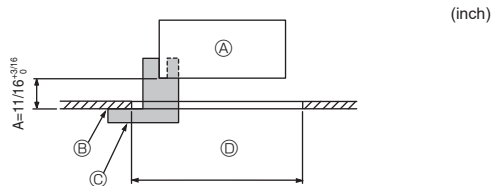
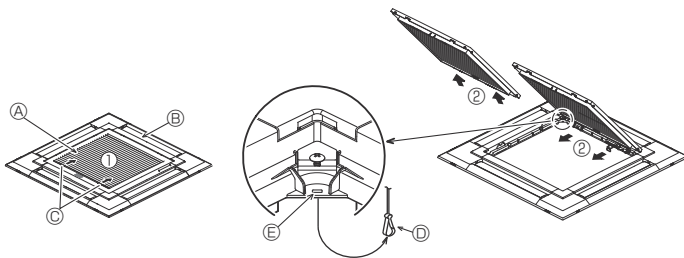
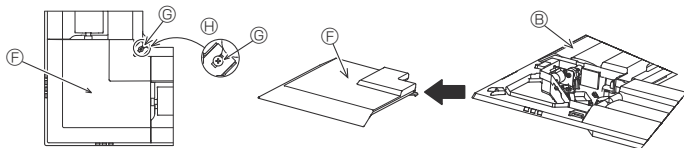

Fig. 6-2
Fig. 6-3
Fig. 6-4
①	Grille	1	950 × 950 (mm), 37-13/32 × 37-13/32 (inch)
②	Gauge	1	Divided into 4 parts
③	Screw (4 × 16)	1	For PLFY-WL-NEMU-E(1)
④	3D i-see Sensor corner panel	1	For PLFY-WL-NEMU-E(1)
6.2. Preparing to attach the grille (Fig. 6-2)
- With the gauge ② supplied with this kit, adjust and check the positioning of the unit relative to the ceiling. If the unit is not properly positioned relative to the ceiling, it may allow air leaks or cause condensation to collect.
- ① Main unit
- ② Ceiling
- ③ Gauge ② (inserted into the unit)
- ④ Ceiling opening dimensions
6.2.1. Removing the intake grille (Fig. 6-3)
- Slide the levers in the direction indicated by the arrow ① to open the intake grille.
- With the intake grille in the "open" position, remove the hinge of the intake grille from the grille as indicated by the arrow ②.
6.2.2. Removing the corner panel (Fig. 6-4)
- Loosen the screw from the corner of the corner panel. Slide the corner panel as indicated by the arrow ① to remove the corner panel.
[Fig. 6-3] [Fig. 6-4]